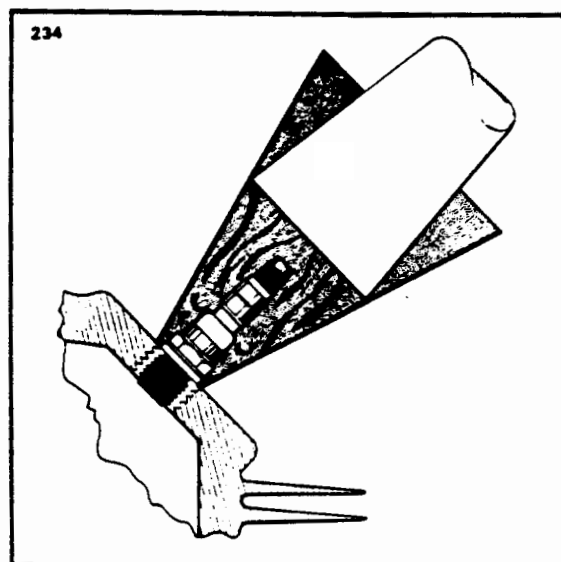

Figure 8-20. Removing Spark Plug
d. Removal of seized spark plugs in the cylinder may be accomplished by application of liquid carbon dioxide by a Conical metal funnel adapter with a hole at the apex just large enough to accommodate the funnel of a CO₂ bottle. (Refer to Figure 8-20.) When a seized spark plug cannot be removed by normal means, the funnel adapter is placed over and around the spark plug. Place the funnel of the CO₂ bottle inside the funnel adapter and release the carbon dioxide to chill and contract the spark plug. Break the spark plug loose with a wrench. A warm cylinder head at the time the carbon dioxide is applied will aid in the removal of an excessively seized plug.